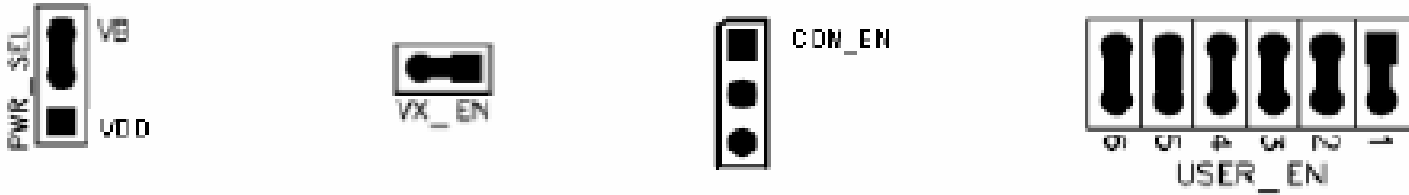

Figure 1. DEMO9S08QG8 Default Settings
1. Check the jumper settings and make sure they are in the default position. Use Figure 1 as a guide.